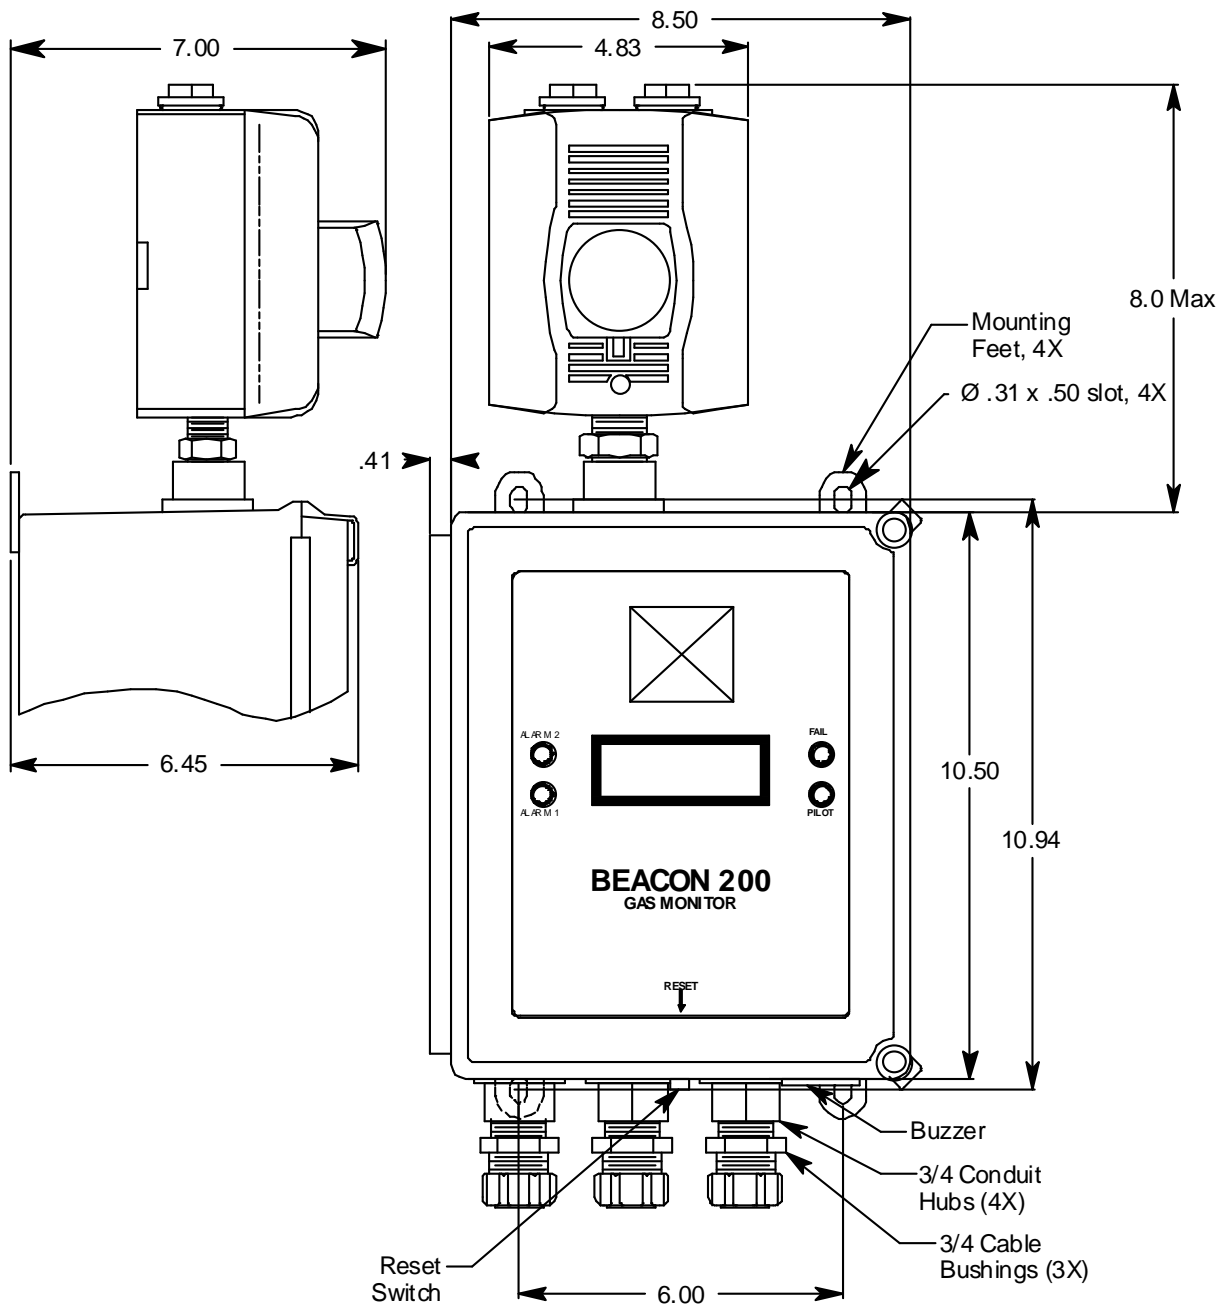

Figure 5. Rig Monitor Outline and Mounting Dimensions
4. The Rig Monitor is shipped with the mounting feet positioned behind the housing. Loosen the screws that secure the feet to the housing, rotate the feet to their mounting position (as shown in Figure 5), then tighten the screws.
5. Insert 1/4 in. or 5/16 in. screws through the slots in the mounting feet at each corner of the housing to secure the housing to the mounting surface (see Figure 5).